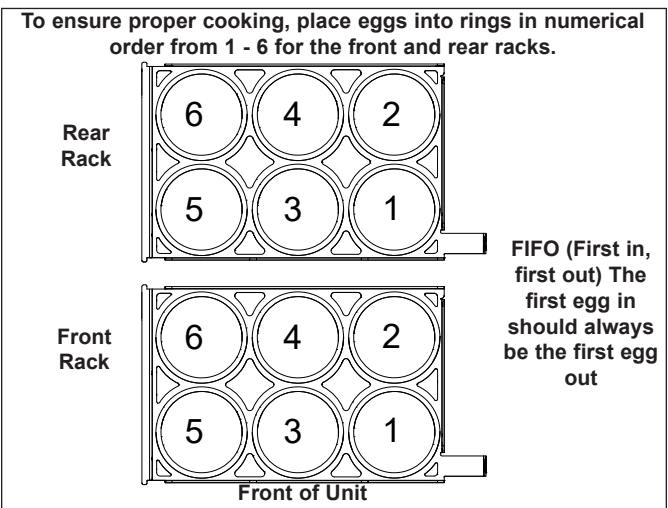

Figure 4. Egg Cooking Procedure
5. Crack the eggs into the Egg Rings from Front to Back, right to Left as shown in Figure 4.
14. Raise the Egg Rack completely off the eggs and remove the eggs starting with the **FIRST** egg added (Figure 4). Continue removing the eggs in the order they were added until all eggs have been removed.